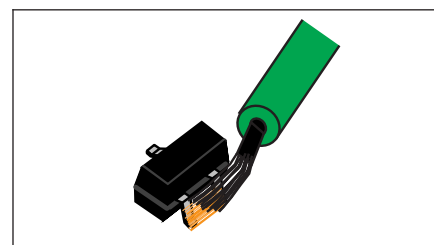

Figure 1 Apply Flux
4. Apply flux to all lead/land areas. (See Figure 1.)